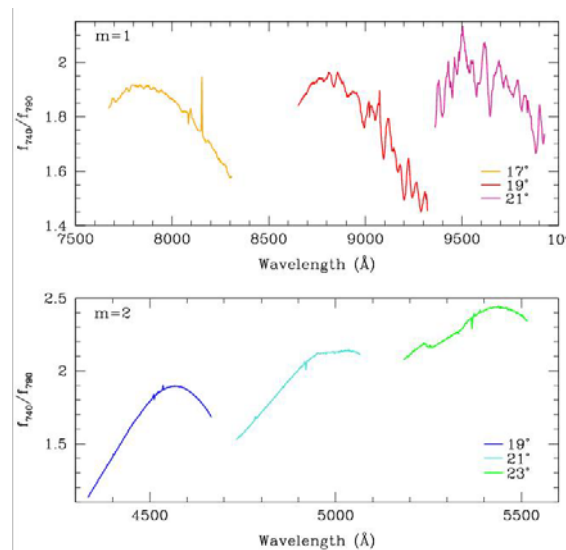

Figure 1: A comparison of VPH 740 l/mm versus the single-ruled (SR) 790 l/mm grating throughput.
Figure 1: An image of M 33 taken by QUOTA during its first-light campaign (October 8th to 11th). The picture is a composite of 20 minutes exposures taken in the SDSS r'-band, the U-band and in H α .
Figure 1: The distribution of the HK index for the M67 solar-type stars (solid) and for the contemporary sun (dotted). This figure shows the larger range for the HK index observed in the "suns" of M67.
Figure 1: The WHIRC optical bench assembly fitted to the precision optical surface on top of the WHIRC dewar. This optical bench will be coated with Z306 black paint in the next and final manufacturing step.
Hardware. WHIRC is well into its fabrication phase (see Figure 1 for example, which shows the optical bench assembly). All of the mechanical components are on schedule with the exception of the filter wheel. It is about two
Their work has revealed some surprising results such as the fact that the variation in the HK index provides a broader range in values than that measured for the contemporary Sun (Fig. 1).
VPH gratings. The 740 l/mm grating is now officially in service as a facility grating. We encourage observers to consider using this grating! Figure 1 (courtesy Kyle Westfall) shows a comparison of VPH 740 l/mm versus the single-ruled (SR) 790 l/mm grating throughput. The data were taken using the Hydra red cable. *The VPH grating has 2 times (1.7-2.5) the throughput as the SR grating.*